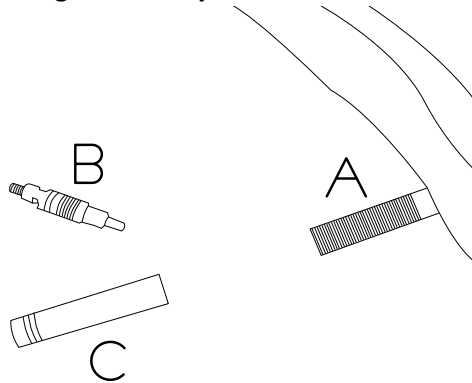

Figure 6.3
- Unscrew the valve extender (Fig 6.3, C) from the tyre (see over page).
Valve Extenders can be transferred from one tyre to another. The nature of our valve extenders is such that they can be fitted with the valve 'core' from the tyre, which can also be transferred to the new tyre if un-damaged. The valve core (Fig 6.3, B) comes with the tyre and can be screwed into either the tyre (Fig 6.3, A) or the valve extender (Fig 6.3, C). Spare cores should be kept safe as they can be fragile and very useful.
- Fit tyre valve with existing valve extender (Fig 6.3, C) and core (Fig 6.3, B).